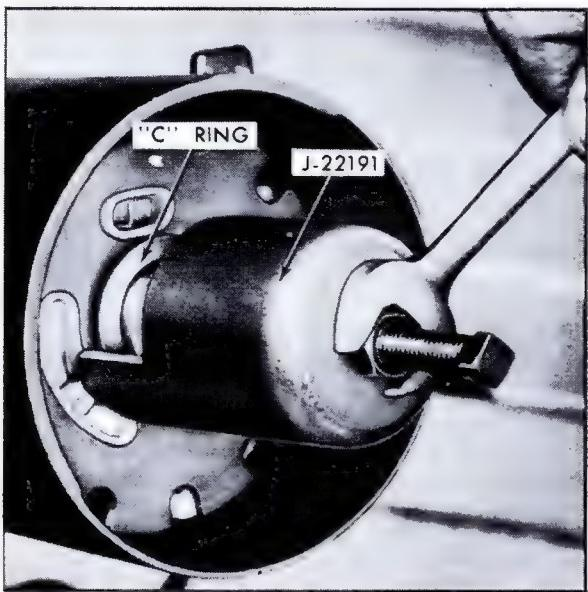

Fig. 9-52 Removing and Installing C-Ring (T & T)
3. Install spring Compressor, J-22191, on steering shaft, Fig. 9-52.
4. Compress upper steering shaft preload spring and remove C-ring, Fig. 9-52.